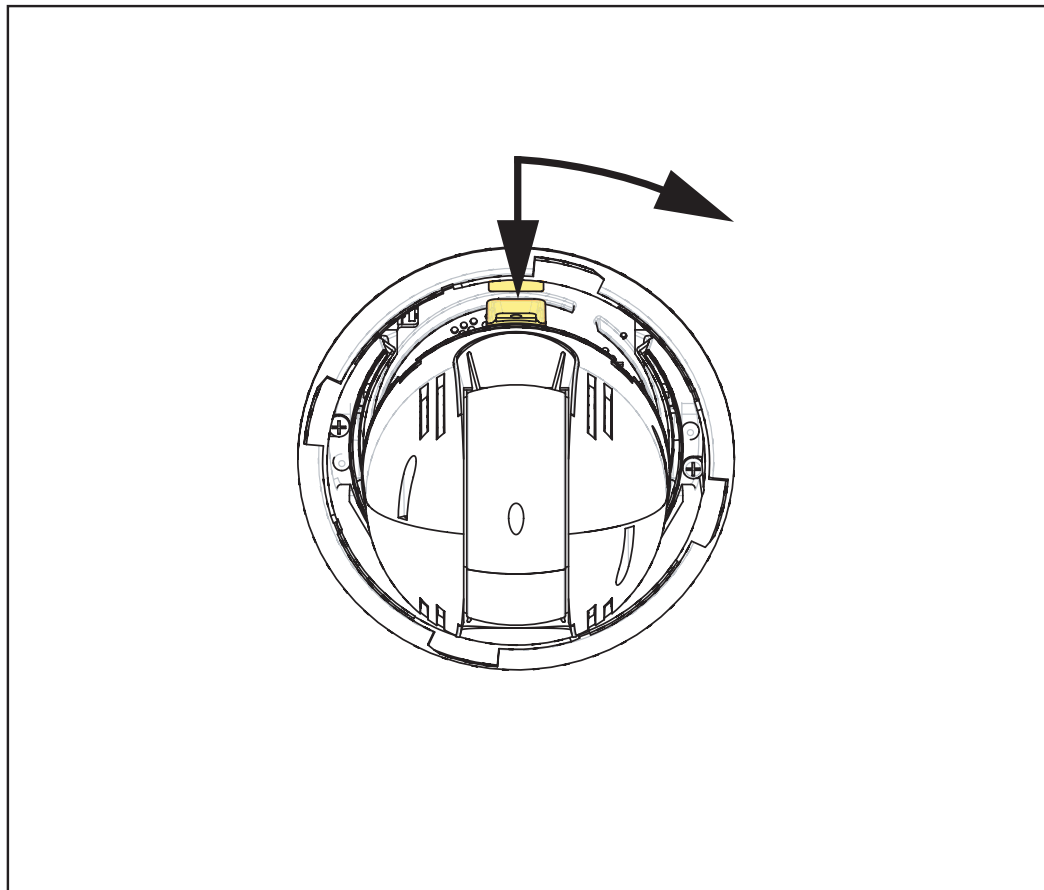

Fig. 3.13 Install Camera Module and Bubble
2. Rotate the bubble clockwise until it locks in position. See *Figure 3.13* on page 48.